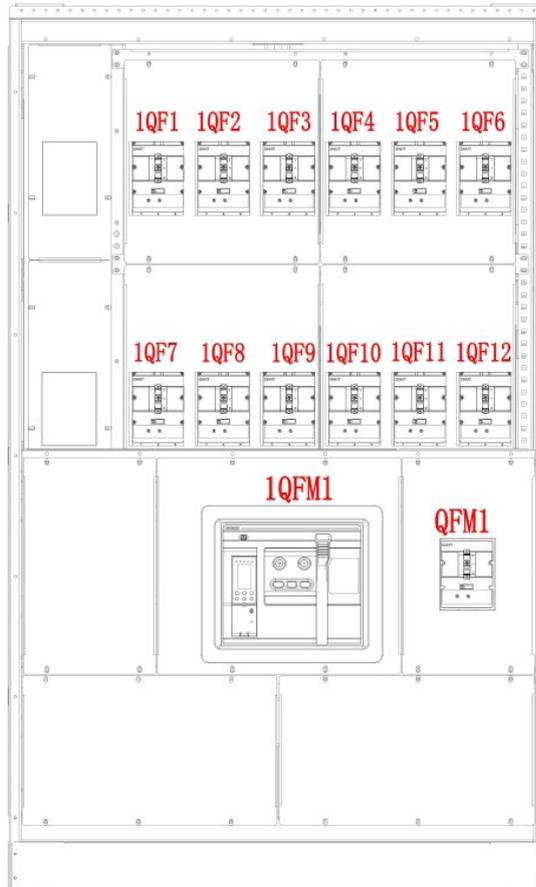
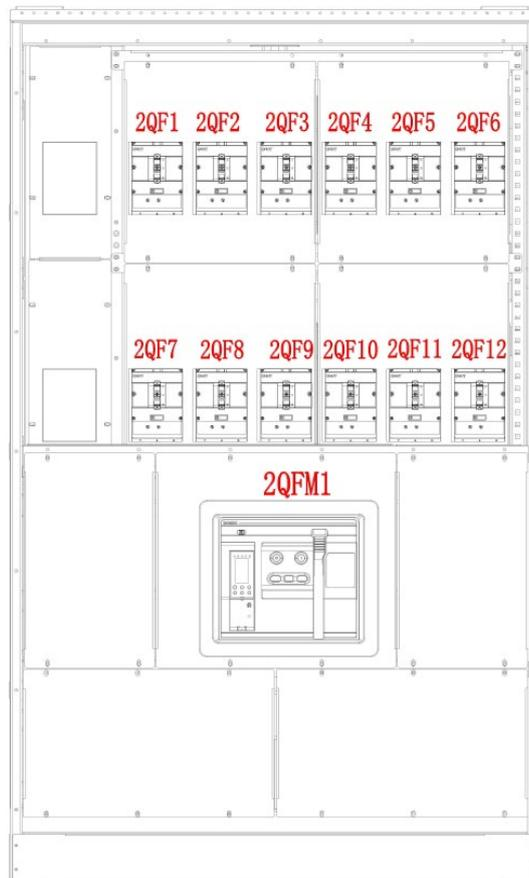

Figure 5-4 Plastic case circuit breakers 1QF1-1QF12, 1QFM1 and QFM1
Figure 5-5 Plastic case circuit breakers 2QF1-2QF12, 2QFM1
6. Successively disconnect the air circuit breaker 1QFM1, plastic case circuit breaker QF1-QF12、QFM1 in the 1# AC Combiner Cabinet and disconnect the air circuit breaker 2QFM1, plastic case circuit breakers QF1-QF12 in 2# AC Combiner Cabinet; (If the power outage is for a short time, skip this step). See Figure 5-4 and Figure 5-5.